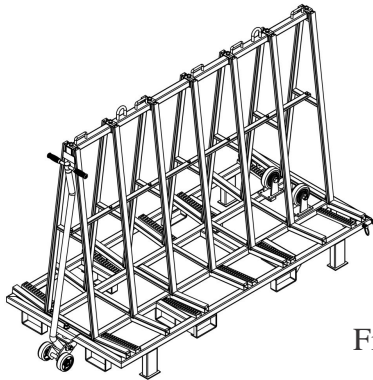

Figure 2.2
Step 1: Remove 2 casters (figure 2.2).